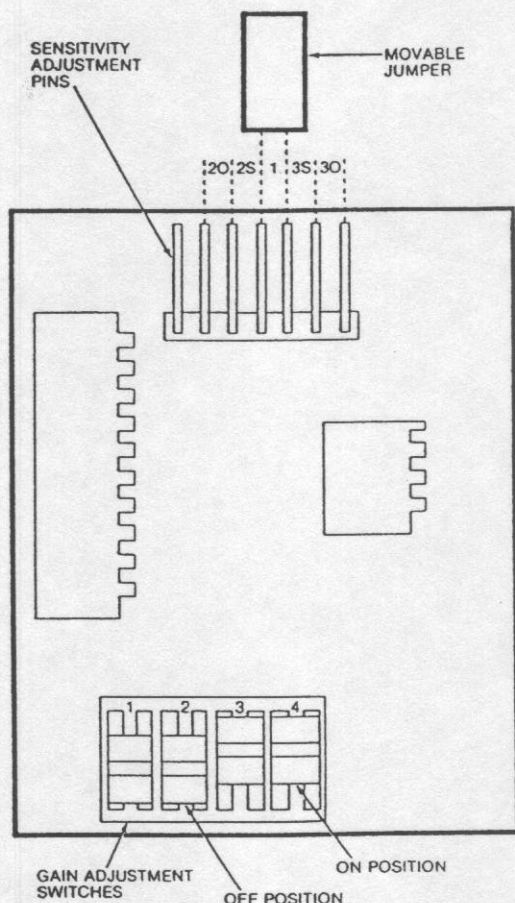

Figure 3 Lorain Repeater Adjustments
8. Adjust the gain of the repeater by setting the four switches on the small repeater card attached to one end of the main repeater card. See Figure 3. These switches provide gains of 1, 2, 4, and 8 dB respectively. For example, if the switches are set as shown in Figure 3, the gain of the repeater is 4 dB plus 8 dB, for a total of 12 dB.